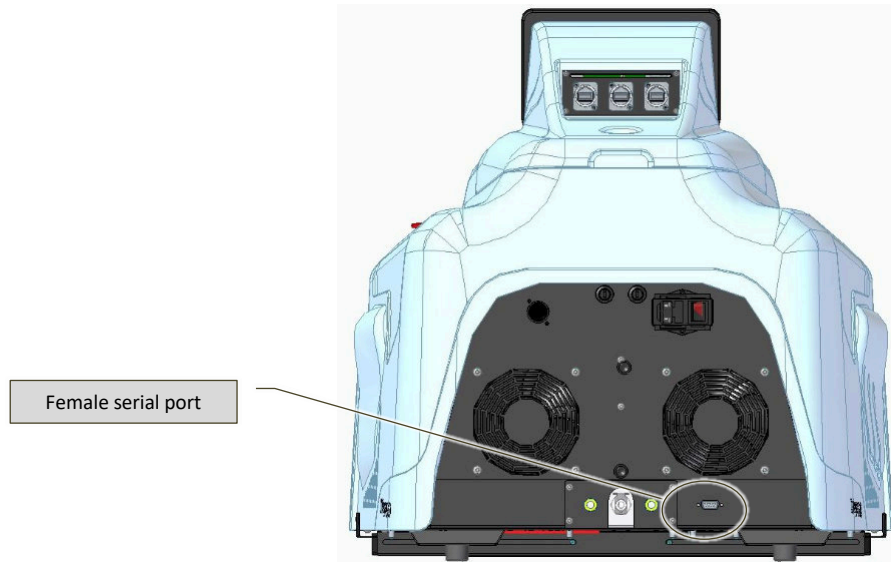

Fig. 6-25 – Position of control pedal connection
- Connect the male connector of the trigger control pedal to the female DB-9 female serial port (Fig. 6-25), located on the rear of the machine;